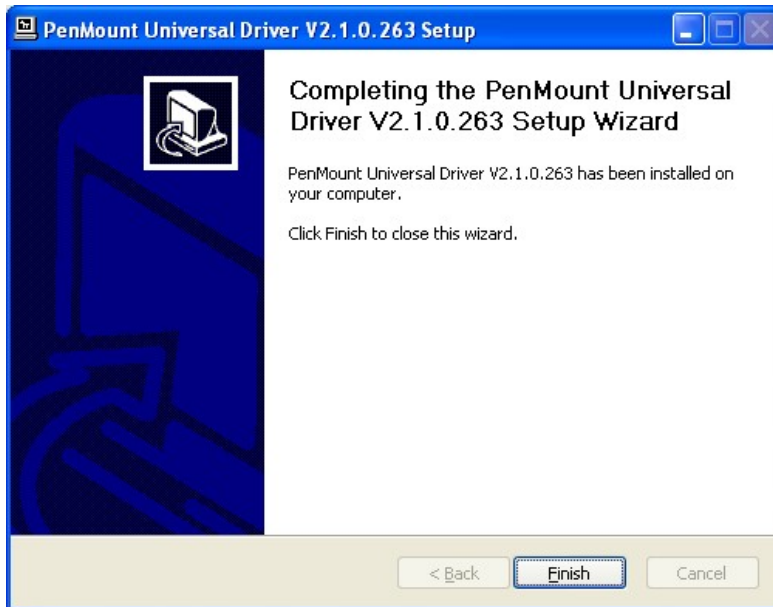

Figure 7-21: Touch Screen Driver Update Complete
Step 12: When the installation is complete, click **FINISH** to exit setup. (Figure 7-21).